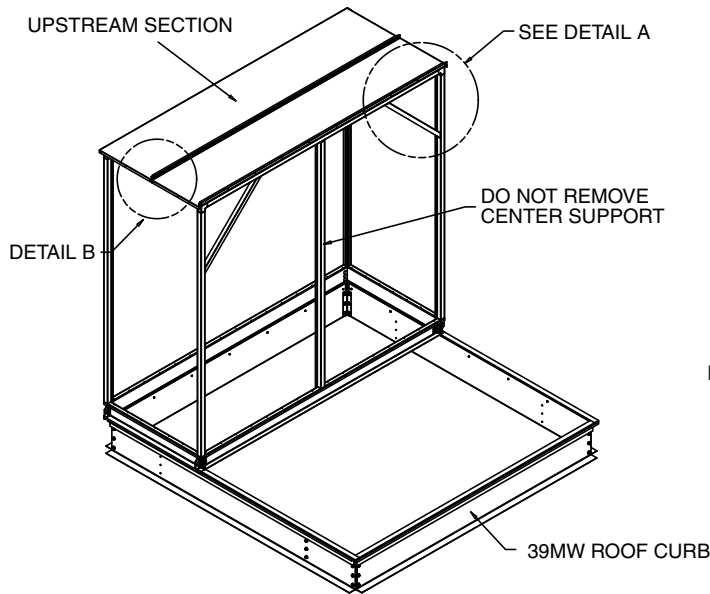

Fig. 32 — 39MW Split Assembly
16. For outdoor units, assemble all roof brackets provided and caulk roof corners as shown in Fig. 32, Detail B. Also caulk (using black or grey polyurethane adhesive sealant such as Black Sikaflex¹ 221 or Silaprene² SolidSeal) over the field section joint seals from top to bottom on the outside of each field joint to ensure seal integrity.